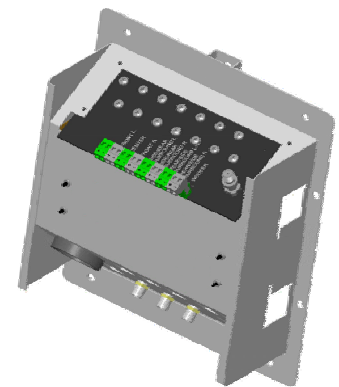

Figure 4
- A. At the HECC location, pull the RG6QS and speaker wires through the HECC mounting bracket. Terminate the RG6QS cables with "F" connectors and attach to the appropriate connectors for distributed TV service and sub-woofer service. The Surround Sound speaker wires should be terminated at the screw terminals on the back of the HECC in accordance with the appropriate speaker locations (5.1, 6.1, 7.1) as indicated on the HECC (see **Figure 4**).
- D. If using a 6 Room Audio Module, terminate the speaker wires from the impedance matching volume controls at the screw terminals on the back of the HECC (see **Figure 4**).